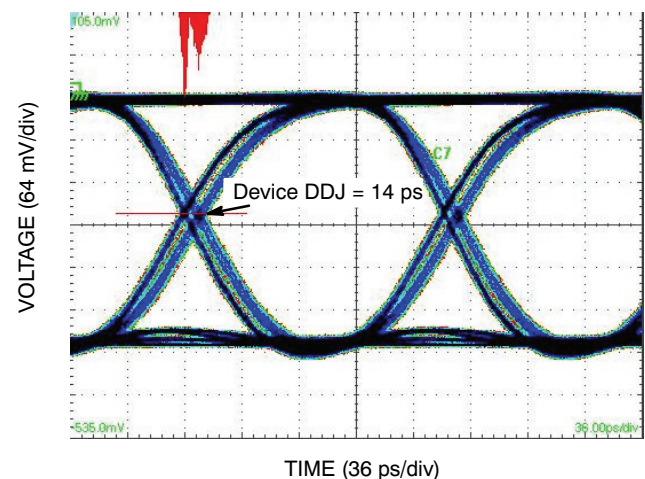

Figure 12. Typical Output Waveform at 6.125 Gb/s with PRBS $2^{23}-1$ ($V_{INPP} = 400$ mV; Input Signal DDJ = 15 ps)
8. Measured by forcing $V_{INPP}(MIN)$ from a 50% duty cycle clock source. All loading with an external $R_L = 50\ \Omega$ to V_{CC} . Input edge rates 40 ps (20% – 80%). See Figure 12 and 14.